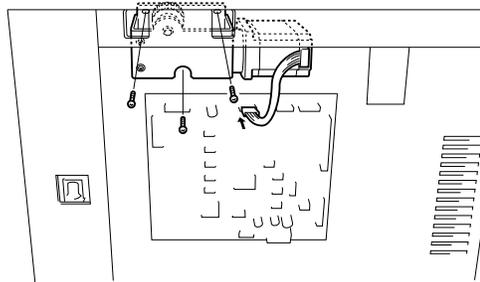

Figure D-2
3. Position the swing guide drive motor assembly while shifting it to the right of the printer body by temporarily fastening the three screws. (See Figure D-2)
4. Connect the connector (6P) from the swing guide drive motor assembly to PWB-F (PJ6). (See Figure D-2)